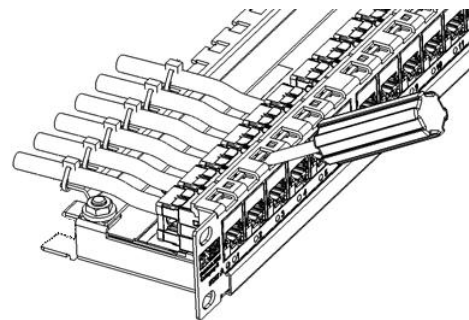

Fig. 7
2. Use screwdriver or similar tool to lift the latch above jack and release jack (See Fig. 7).